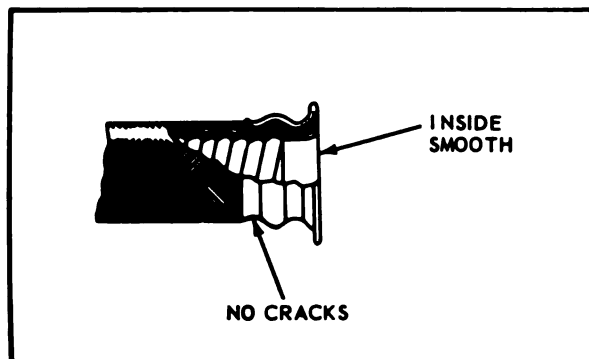

Figure 11-18. Good Crimped Ferrule
- m. Rotate crimping wheel back and forth, at the same time turn adjustment screw clockwise in four steps or until the desired depth of impression is achieved. See figure 11-18 for illustration of good ferrule crimp.